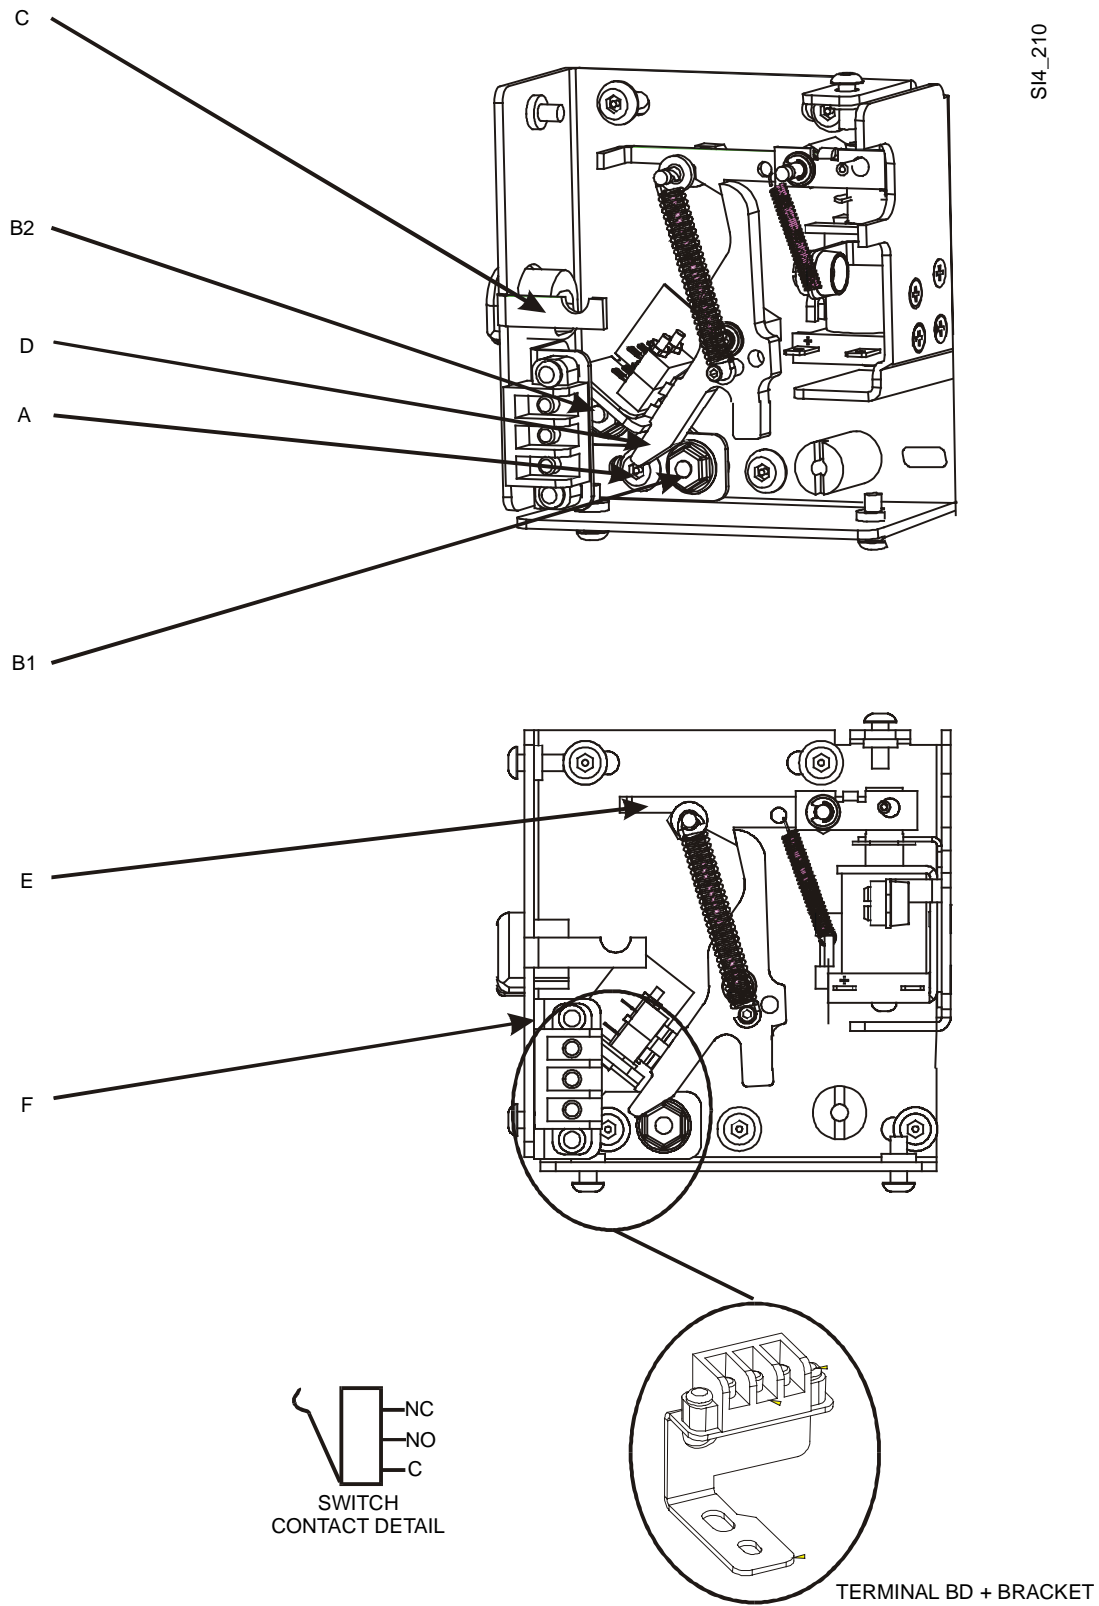

Figure 4-1 ELM Modification
This module uses a 3-wire cable for SPDT contacts. Use care when installing the internally mounted terminal board (see Figure 4-1).
7. Place the terminal board and bracket (FIND 9 and FIND 10) as shown in Figure 4-1. Push the terminal board flush against the ELM side (F) as illustrated. Then secure the terminal board with nut (B1) and screw (A).
9. Make necessary connections to the terminal board from the switch and external security cable. The switch contact arrangement is shown in Figure 4-1.